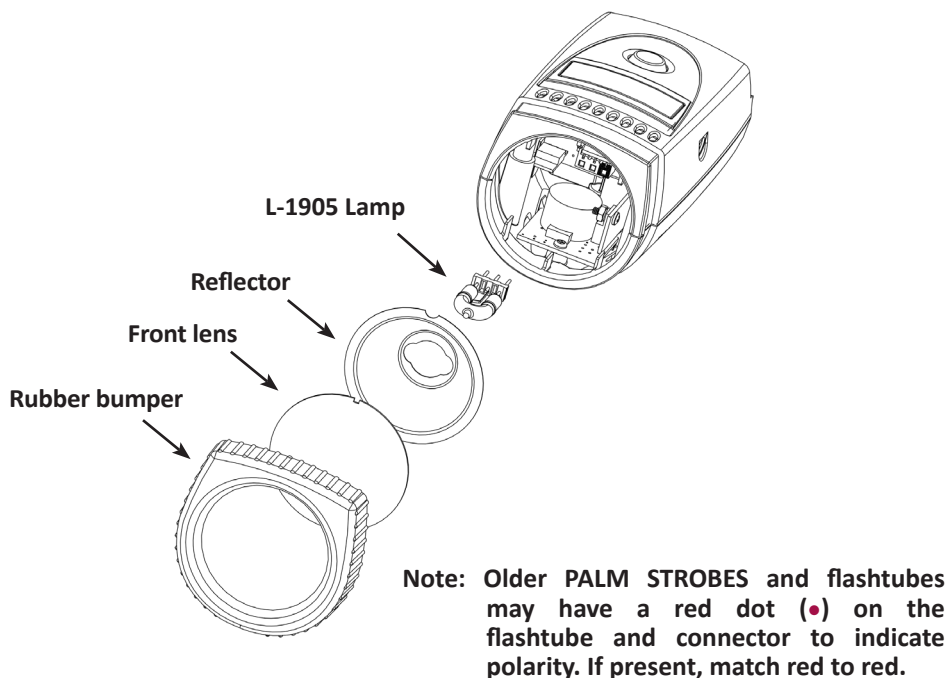

Figure 6 Lamp Replacement
1. To gain access to the lamp, it is only necessary to remove the front lens and reflector, which are held in place by the rubber bumper (see Figure 6). Pull the rubber bumper off the end of the unit. While it is not necessary to remove the reflector, it is held in place by the front lens and will come loose.
3. Using a lint-free cloth, insert the new lamp by gently rocking the lamp while pushing it into place matching any polarity (if present, see Figure 6). Make sure the lamp is in straight and centered in the reflector opening.
4. Reinstall the reflector (if necessary) and then position the front lens in place matching up the notches on the lens with the two small tabs on the housing to prevent lens rotation (see Figure 6). Stretch the rubber bumper over the top and bottom case halves to seal in the reflector and front lens.